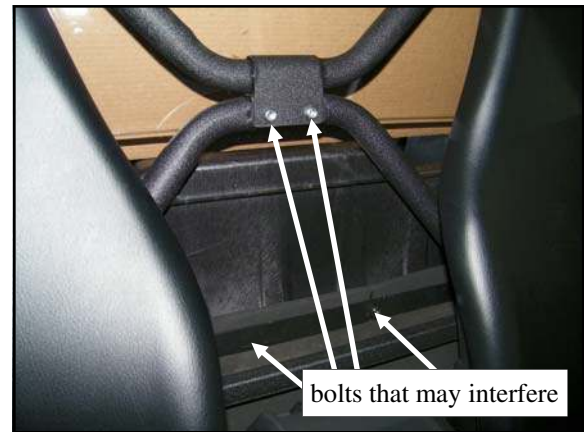

Fig. 3.1
**3.1** On 2016 models, the four fasteners identified in fig. 3.1 should be temporarily removed before installing the rear panel in order to avoid scratching the polycarbonate as it needs to be slid down behind the tubing.